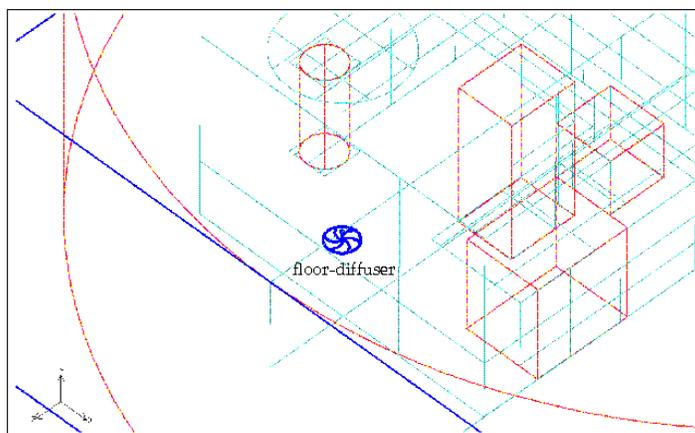

Figure 4.7: Close-Up View of the Fan Object
- (a) Use the right mouse button to zoom into the CAD geometry representing the fan and the middle button to translate the view, as shown in Figure 4.7.
- ii. Using the left mouse button, click on the circle that comprises the inlet fan (shown in Figure 4.7) in the graphics window.